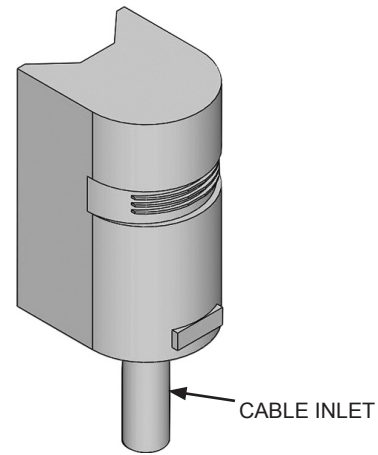

FIGURE 16. OUTDOOR SENSOR
2. Outdoor Terminals: In case of Hydronic Boilers, they are connected to the outdoor sensors. But in case of Hot water Boilers, they are not connected. See Figure 15. The outdoor sensors must be mounted with cable inlet facing down as shown in Figure 16. The maximum length of the wire connecting from the boiler to the outdoor sensor must be no more than 50 feet (15.2 m).